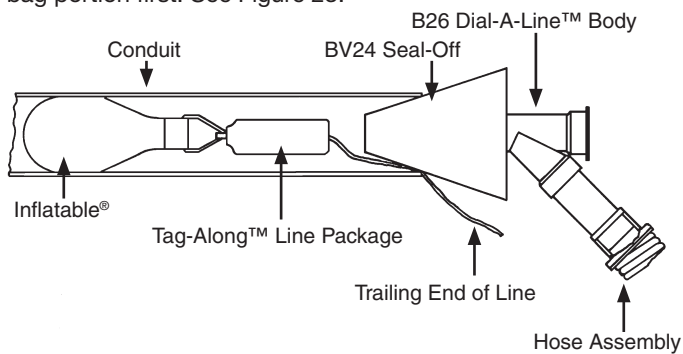

Figure 23. Blowing a Tag-Along Line Package in conduit with the Inflatables®
2. Unfurl The Inflatables® line carrier and place it in the conduit — bag portion first. See Figure 23.